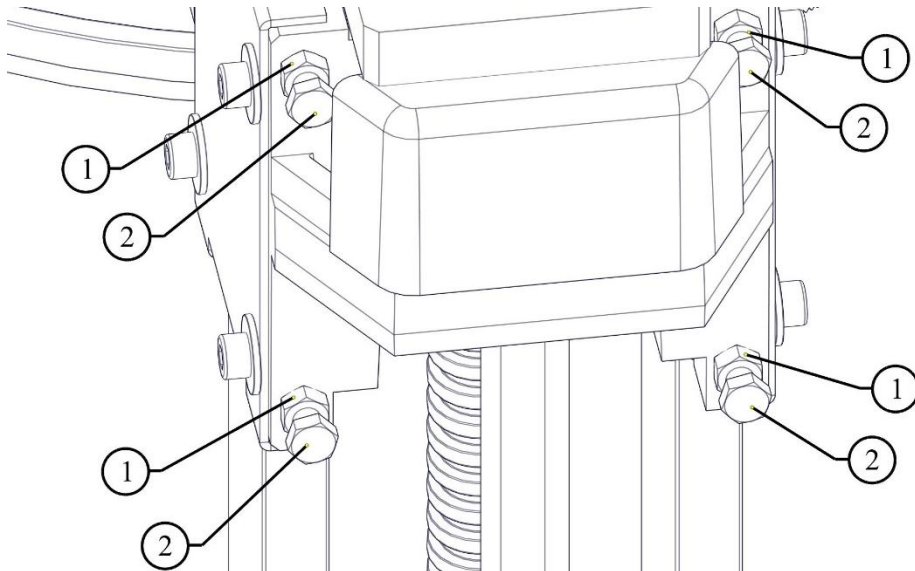
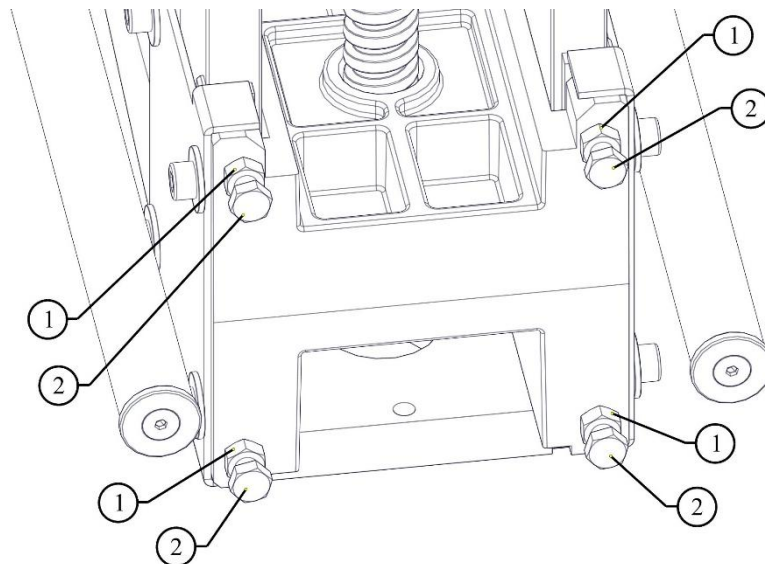

Figure 20: Top arm adjustment
Figure 21: Bottom arm adjustment
- Loosen the nuts (marked 1 in in Figure 20 and Figure 21) using the special wrench provided;
- Tighten the screws (marked 2 in Figure 20 and Figure 21) **MANUALLY** until there is no vertical backlash between the arm and the guide;